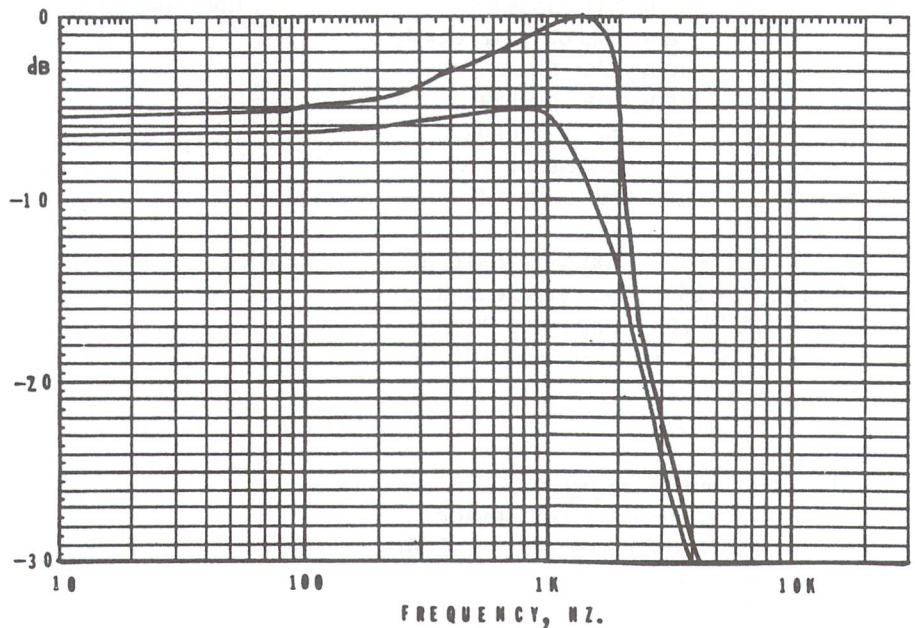

Figure 1: The SID filter in its low pass mode. The upper curve is for maximum resonance(15) and the lower curve is for minimum resonance(0).
An ideal low pass filter passes all frequencies below the cutoff frequency and severely attenuates all those above it. A typical response for SID's low pass filter is shown in Figure 1. The y-axis is the output signal in decibels ($y = 20 * \log(V_{out}/V_{max})$). The x-axis is the frequency of the input signal, also on a logarithmic scale. The resonance was maximum (15) for the upper curve and minimum (0) for the lower curve. In both cases, the number 800 was placed in register 21-22.
Figure 4: Relationship between cutoff frequency and the number POKEd to SID's cutoff frequency register. The upper curve is for the low pass mode and the lower curve is for the high pass mode. The cutoff points for the band pass mode fall between these curves. The data in Figures 1, 2 and 3 was taken with the number 800 POKEd into SID register 21-22.